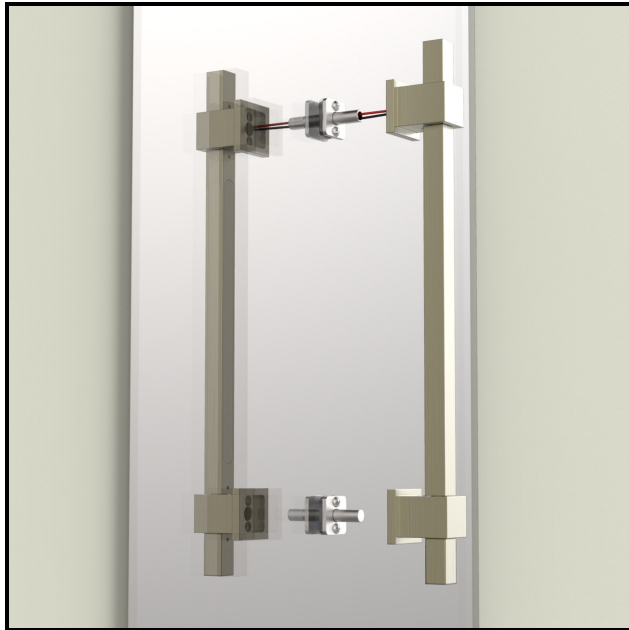

Figure 11
- Carefully slide fixture over posts until it is firmly seated over mirror. (Figures 11 / 12)